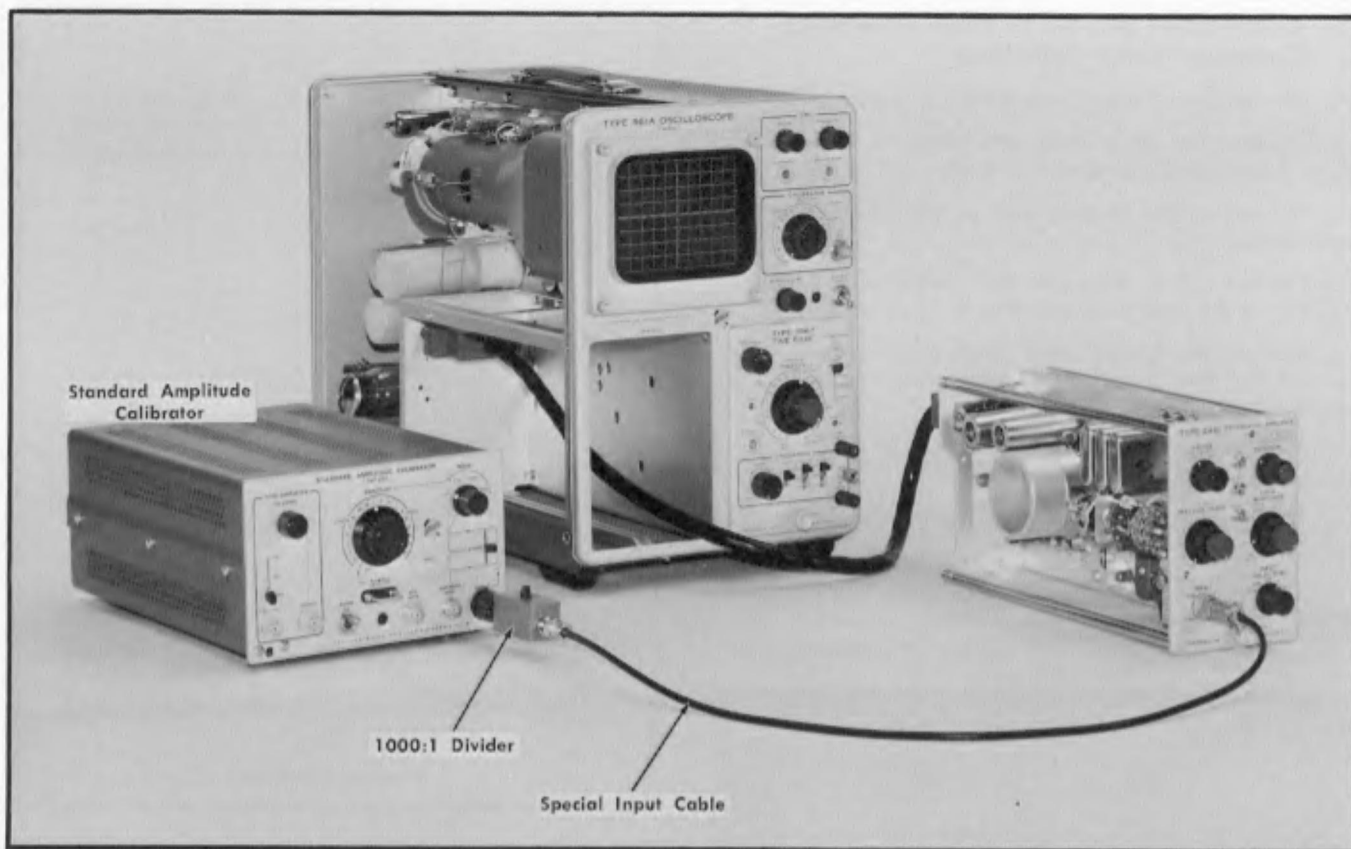

Fig. 6-16. Initial test equipment setup for step 11.
- a. Test equipment setup is shown in Fig. 6-16.